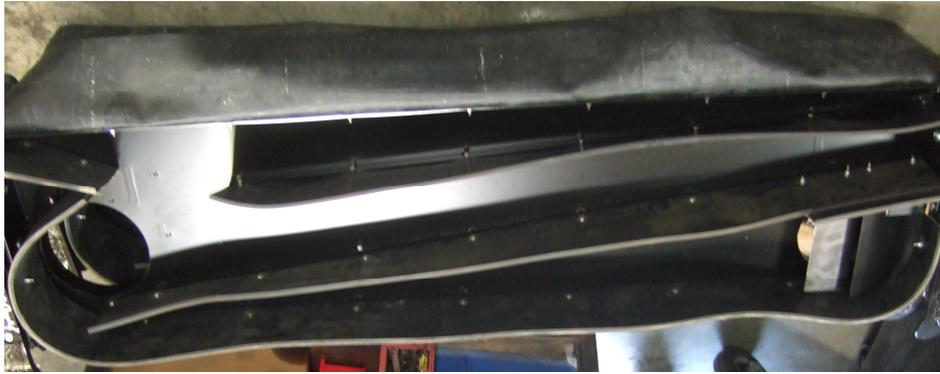

Fig. 19 – Bottom view of Pick-Up Head with Flaps.
To adjust the angle of the skid, loosen the 3-nylock nuts that hold the skid plate to the head (see *fig. 19*), place the skid at the desired angle and re-torque.
6. Reinstall rubber skid spacers making sure there are four on each side (*see fig. 19*).